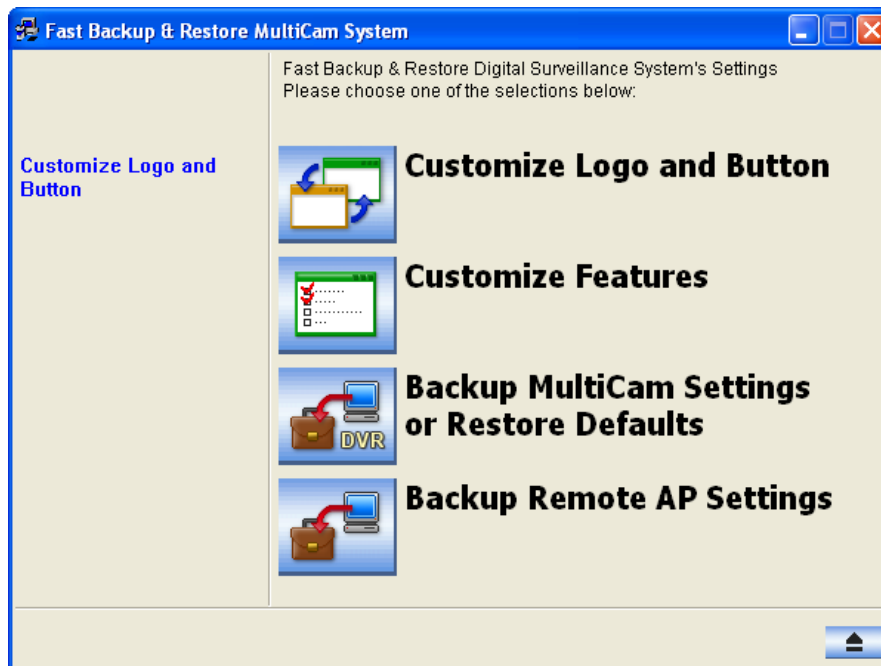

Figure 11-35
1. In the FBR window (Figure 11-35), click the **Customize Logo and Button** icon, select **DVR**, and then select **Custom Logo**. This window appears.
1. In the FBR Window (Figure 11-35), click the **Customize Features** icon to display this dialog box.
1. In the FBR window (Figure 11-35), click the **Backup System Settings** or **Restore Defaults** icon, and select **Backup Current System**. This dialog box appears.